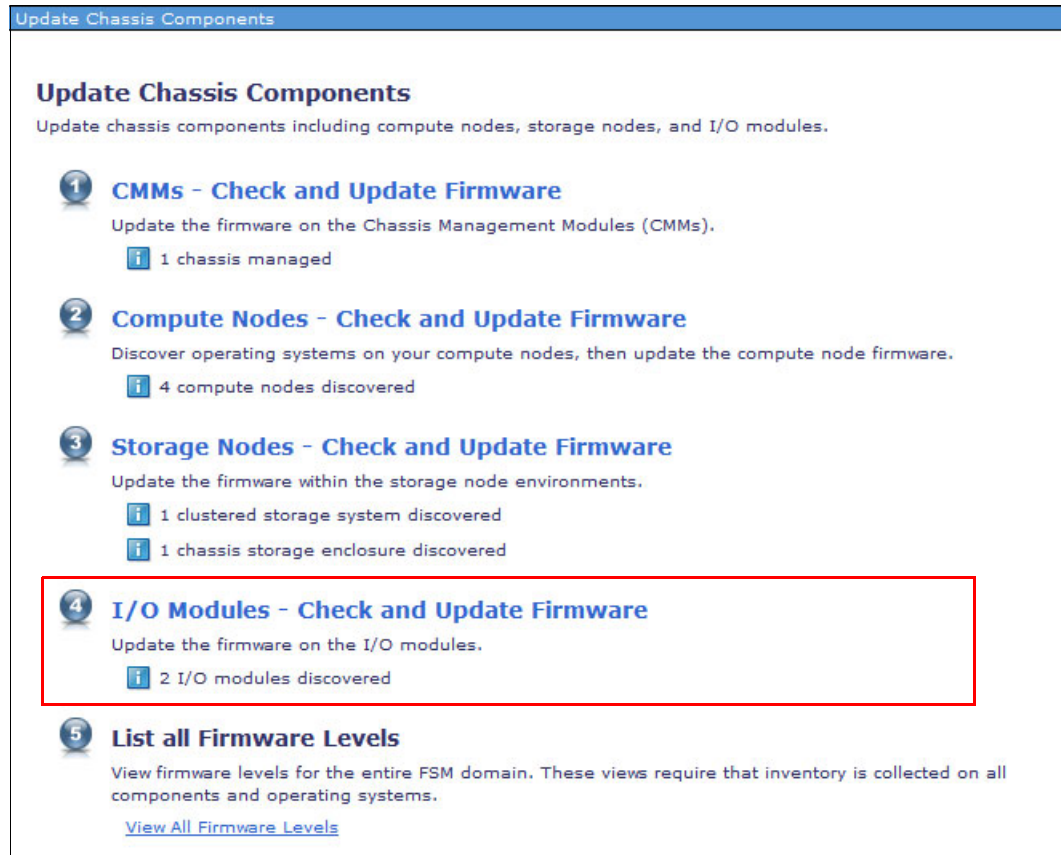

Figure 6-98 Update Chassis Components window: Check for I/O module updates
1. In the Update Chassis Components window, click **I/O Modules - Check and Update Firmware**, as shown in Figure 6-98.